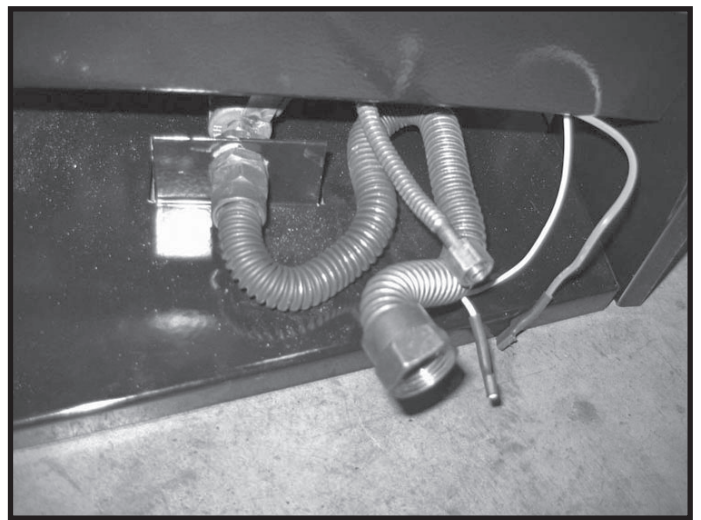
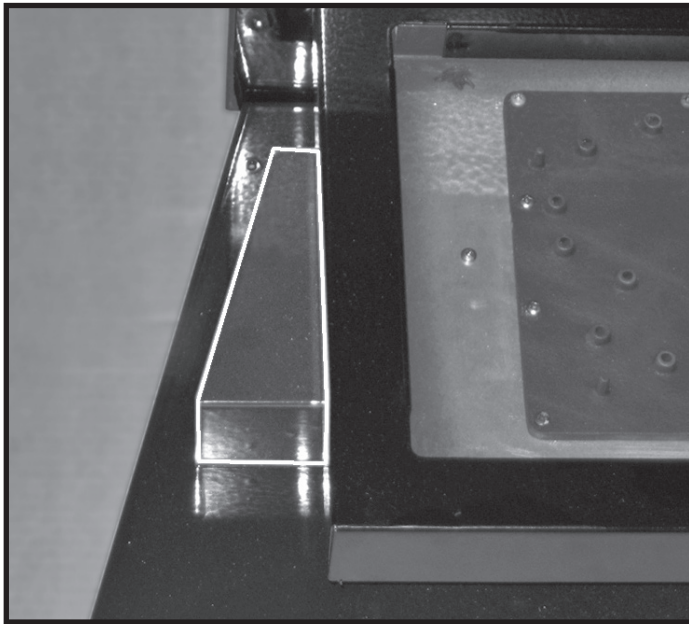
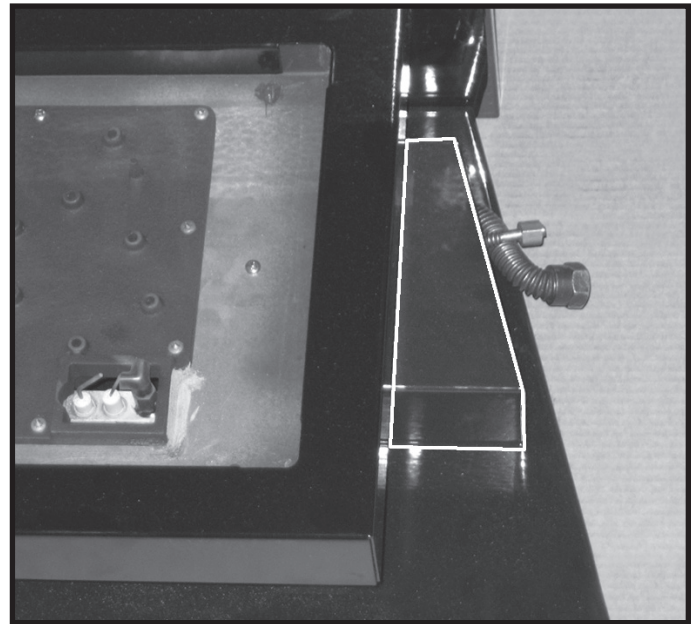

Figure 4: Flex line bent to shape.
Figure 5: Left hand side cover.
Figure 6: Right hand side cover.
3. Bend the larger gas flex line, the smaller gas pilot flex line and the ignition and sensor wires into shape (Figure 4) so that the right hand side cover will fit over top of them before the burner is placed into the firebox (Figure 6).
4. Place side covers between the burner tray and its base (Figure 5 and Figure 6) before the burner tray is inserted into the firebox. These will remain in the retracted position until later in the installation process.